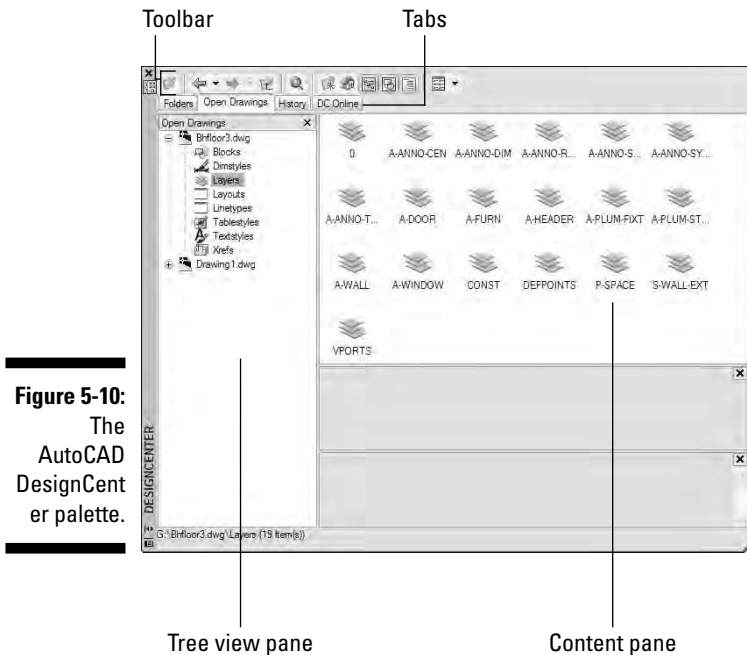

Figure 5-10:
The DesignCenter palette (shown in Figure 5-10) consists of a toolbar at the top, a set of tabs below that, a tree view pane on the left, and a content pane on the right. The tree view pane displays a Windows Explorer–like navigation panel, showing drawing files and the symbol tables contained in each drawing. The content pane usually displays the contents of the selected drawing or symbol table.
The content pane now displays the individual named objects within the named object category. For example, in Figure 5-10 (shown previously), the Layers category is selected in the tree view pane, and icons for each named layer are shown in the content pane.
5. **If DesignCenter doesn't display the list of named objects indented underneath the source drawing (the one you opened in Step 2), as shown in Figure 5-10, click the plus sign next to the drawing's name to display that list.**